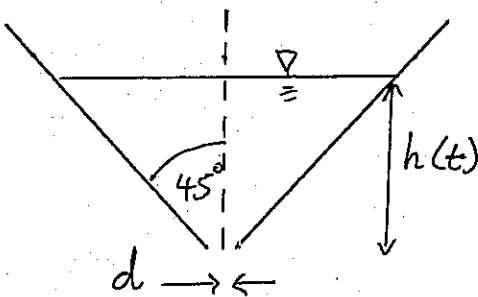

Figure 4
4) A conical tank discharges water through a small hole in its base, as shown in Figure 4. The semi-vertex angle of the cone is 45 degrees and the hole has a diameter of d as shown in the figure. At a certain time t the water level in the tank is $h(t)$ as shown.